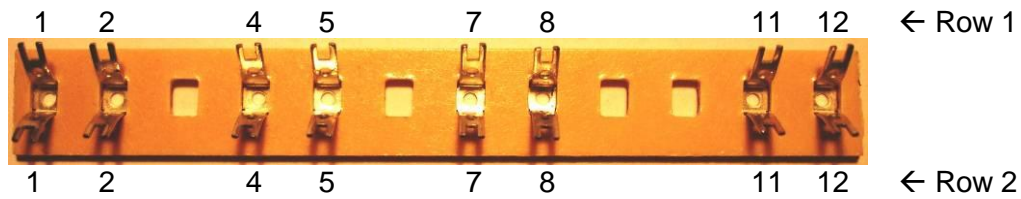

Fig. 18
3) Mounting the components to the soldering strip (s. Fig. 18 and 19)